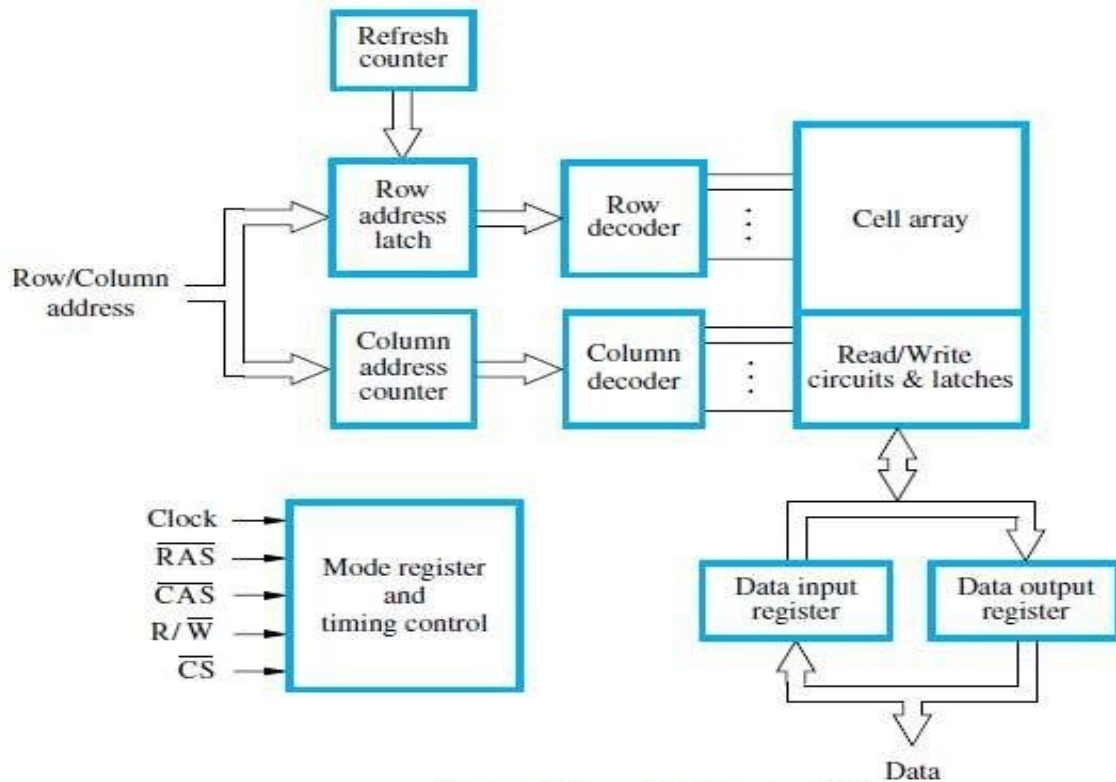

Figure 8.8 Synchronous DRAM.
- The operations are directly synchronized with clock signal (Figure 8.8).